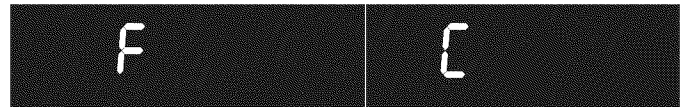

Figure 24: Display showing Fahrenheit and Celsius
2. Once F (or C) appears in the display, press the Up / Down arrow keys to toggle between Fahrenheit and Celsius temperature display modes (Figure 24).